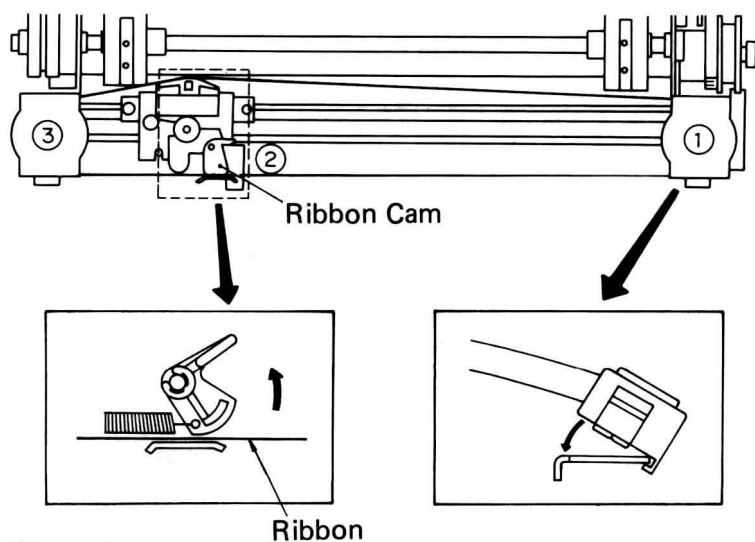

Figure 9
- (3) Remove the printer cover.
- (4) Place the ribbon cassettes in the positions①②, and ③as shown in Figure 9 below.